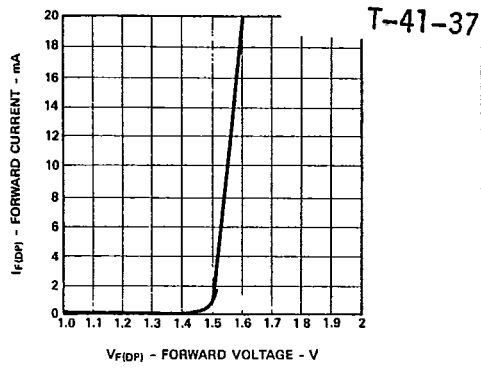

Figure 3. Forward Current vs. Forward Voltage
- $V_{F(DP)}$  is not tested. See Figure 3 for forward voltage versus forward current